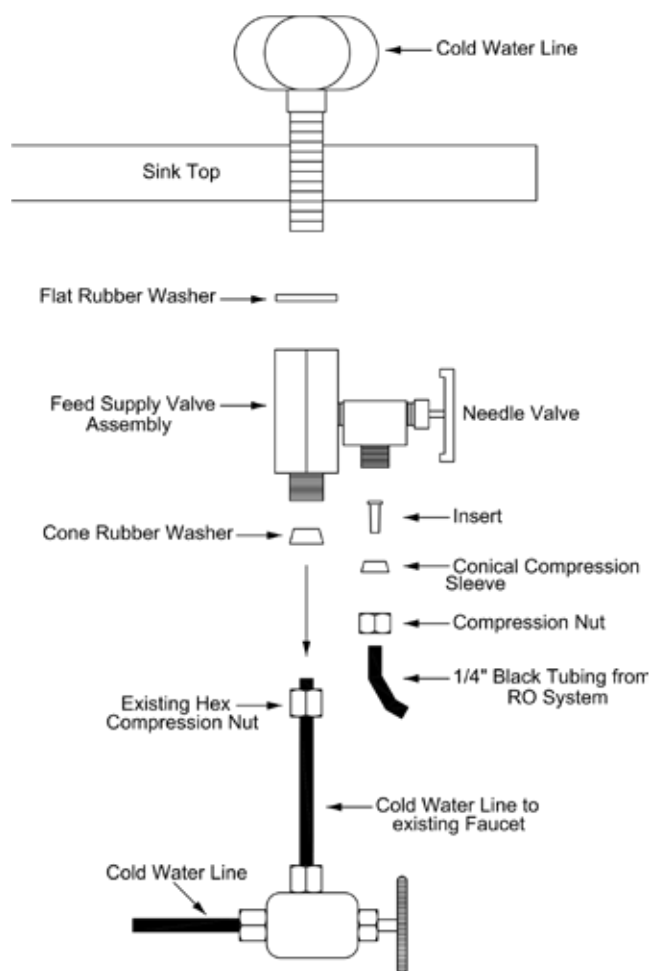

FIGURE 1: FEED SUPPLY INSTALLATION
- STEP 4. Connect Black line from RO system as shown in Fig 1.